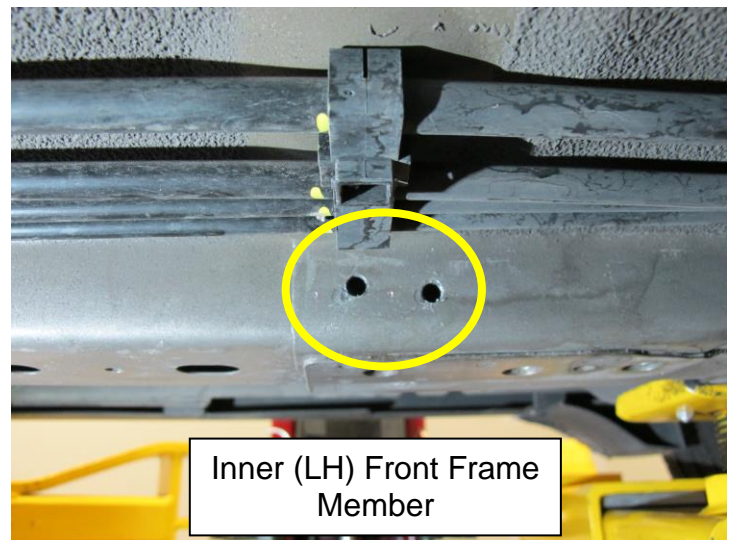

Figure 7
7. Using a **17/64** drill bit, locate the pre-marked/indented punch locations in the two spot welds; drill a hole in the two **inner** (LH) front frame member spot welds (Figure 7).